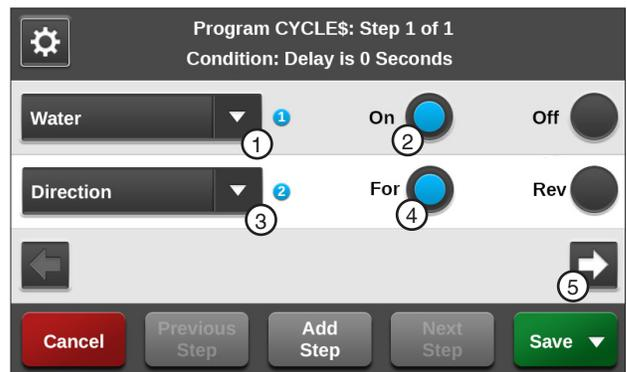

Figure 157-3 1. Water Command 2. Water On 3. Direction Command 4. Forward 5. Next
5. Enter the commands to be executed. Refer to Figure 157-3.